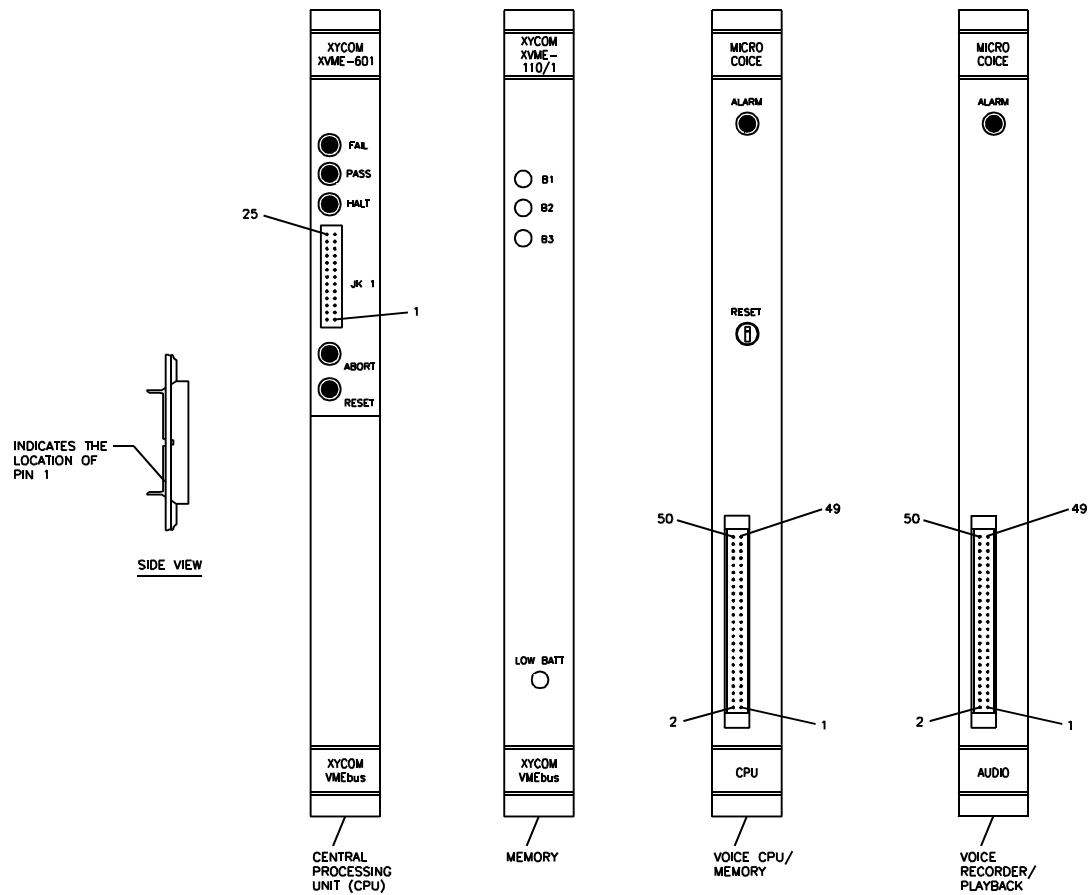

Figure 14.3.2. VME CCA's, Controls and Indicators
14.3.2.2 **VME Rack 7A1A1A2, Controls and Indicators.** VME CCA controls and indicators and their functions are illustrated on figure 14.3.2 and described in table 14.3.2.